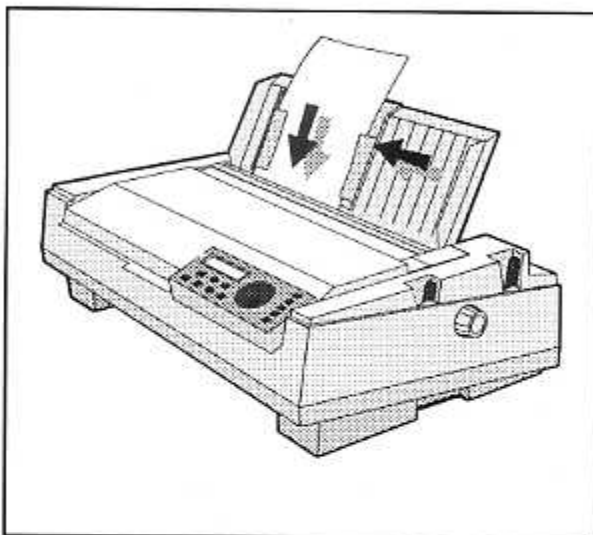

Figure 2-19. Loading a Cut Sheet
1. With the paper support raised, set a sheet of paper between the paper edge guides, as shown in figure 2-19. Make sure that the left paper edge guide is aligned with the red "0" mark (| 0) on the ruler and that the right paper edge guide is against the right side of the paper.